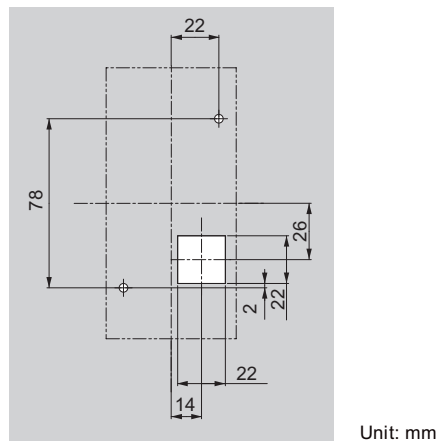

Figure 2.8 Panel Cut-Out Dimensions (External/Face-Mount Installation)
1. Cut an opening in the enclosure panel for the digital operator as shown in Figure 2.8.